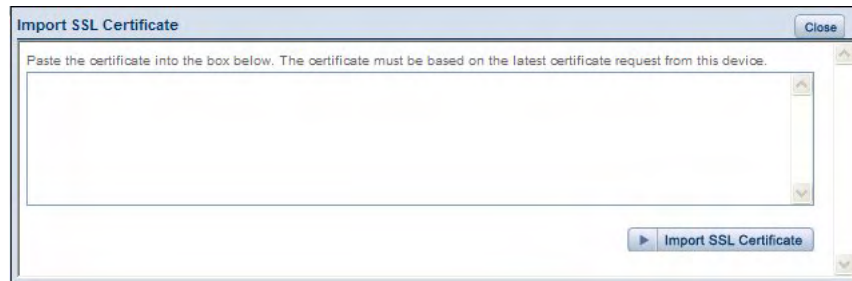

FIG. 39 Import SSL Certificate window
2. Click the *Import SSL Certificate* link to open the Import SSL Certificate window (FIG. 39).